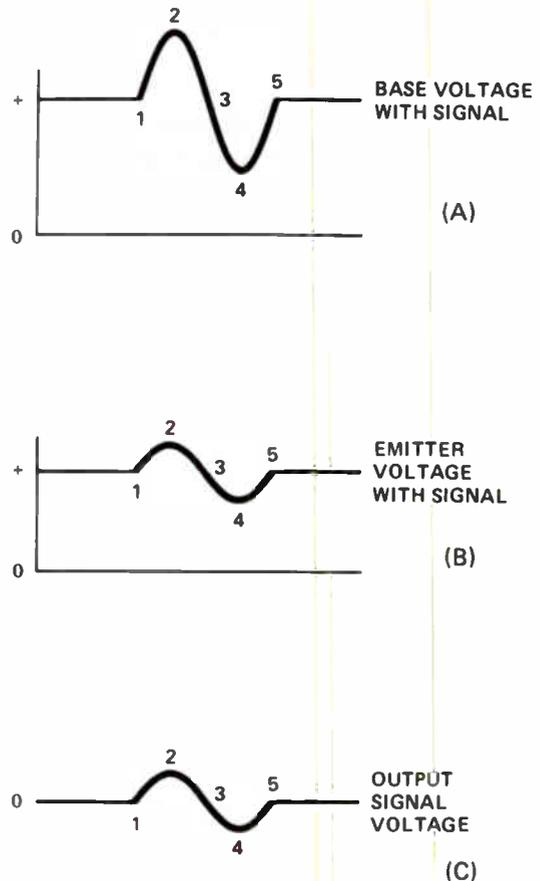

Figure 17. Waveforms for circuit shown in Fig. 16.
With zero input signal, the base and emitter voltages are constant. This is represented in Fig. 17 by the straight, horizontal line up to point 1 in Figs. 17(A) and (B). When a signal is applied between the base and ground during the positive half-cycle, the base voltage starting at point 1 increases to point 2, then returns to zero signal level at point 3. The increase in forward bias across the emitter-base junction causes the emitter current to increase so that the emitter voltage swings from point 1 to point 2 and then back to point 3 as shown in Fig. 17(B).
During the negative half-cycle, as the base voltage swings in a negative direction from point 3 to point 4 and then back to point 5, as shown in Fig.17(A), the emitter voltage also swings in a negative direction. This is because the current through the transistor decreases due to the decreased forward bias across the emitter-base junction. As a result, the current through R2 decreases so that the voltage between the emitter of the transistor and ground goes from point 3 to point 4 and then back to point 5 as shown in Fig.17(B).
The output signal voltage taken between the output terminals is shown in Fig.17(C). Notice that this voltage is zero with zero signal input and then follows the emitter voltage as the signal goes through its cycle. This happens because the reactance of C2 is so low at the signal frequency that, as far as the signal is concerned, it is simply not there. However, C2 does block the dc voltage at the emitter of the transistor and prevents the output from shorting out R2.
From the waveforms in Fig.17 we see that the output voltage is originally less than the input voltage. We say that the common-collector cir-